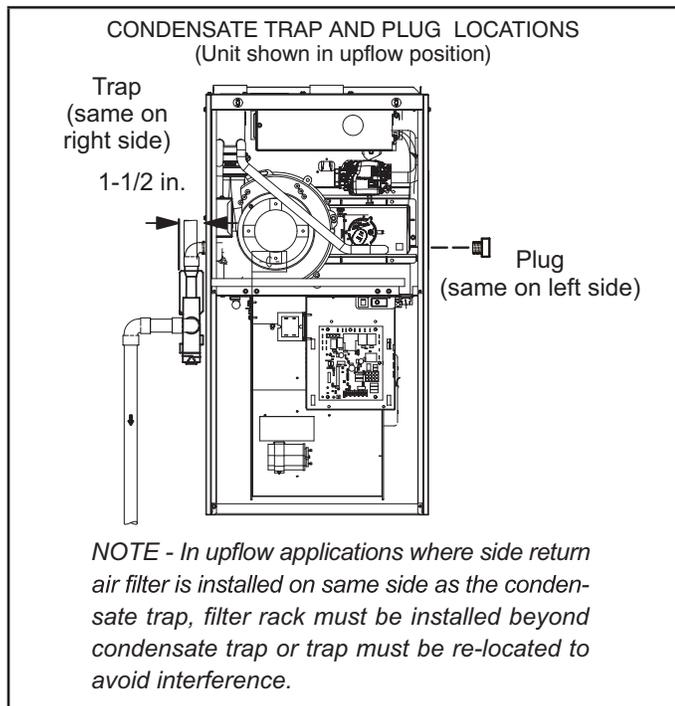

FIGURE 45
This unit is designed for either right- or left-side exit of condensate piping in upflow applications. In horizontal applications, the condensate trap must extend below the unit. An 8" service clearance is required for the condensate trap. Refer to figures "FIGURE 45" and "FIGURE 47" for condensate trap locations. "FIGURE 53" shows trap assembly using 1/2" PVC or 3/4" PVC.
- 2 - Use a large flat head screw driver or a 1/2" drive socket extension and remove plug ("FIGURE 45") from the cold end header box at the appropriate location on the side of the unit. Install provided 3/4 NPT street elbow fitting into cold end header box. Use Teflon tape or appropriate pipe dope.